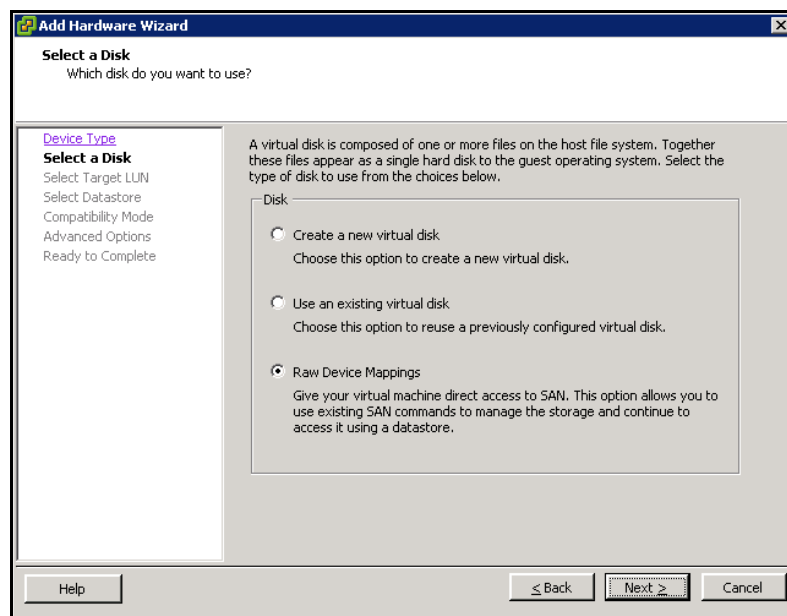

Figure 4-26: Select a Disk Screen (Add Hardware Wizard)
4. Select **Raw Device Mappings**, as shown in Figure 4-26.